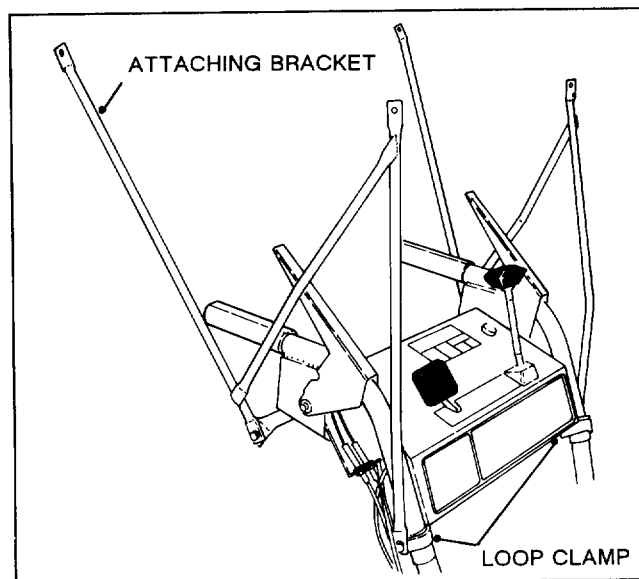

Figure 4
5. Position and secure right hand attaching bracket to attaching bracket base, as shown in fig.4, using a 1/4-20 x 3/4" lg. capscrew and locknut.